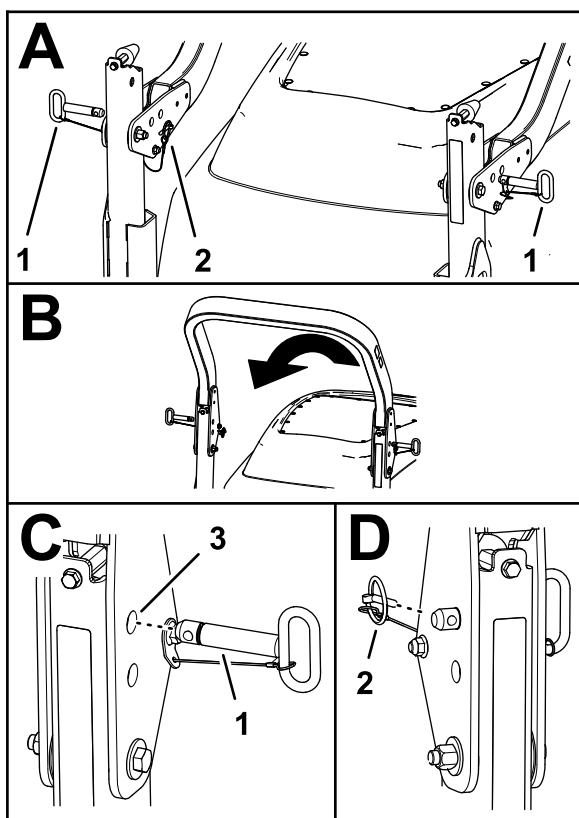

Figure 43
2. Remove the lynch pins that secure the roll-bar pins at each side of the roll bar (Figure 43).